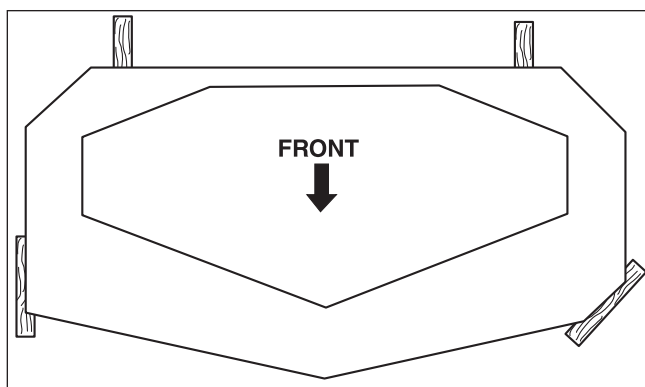

Figure 38. 2 X 4 Locations
3. Place 2 X 4 blocks under each corner of the mower deck with the 3-1/2" sides being vertical. See Figure 38.